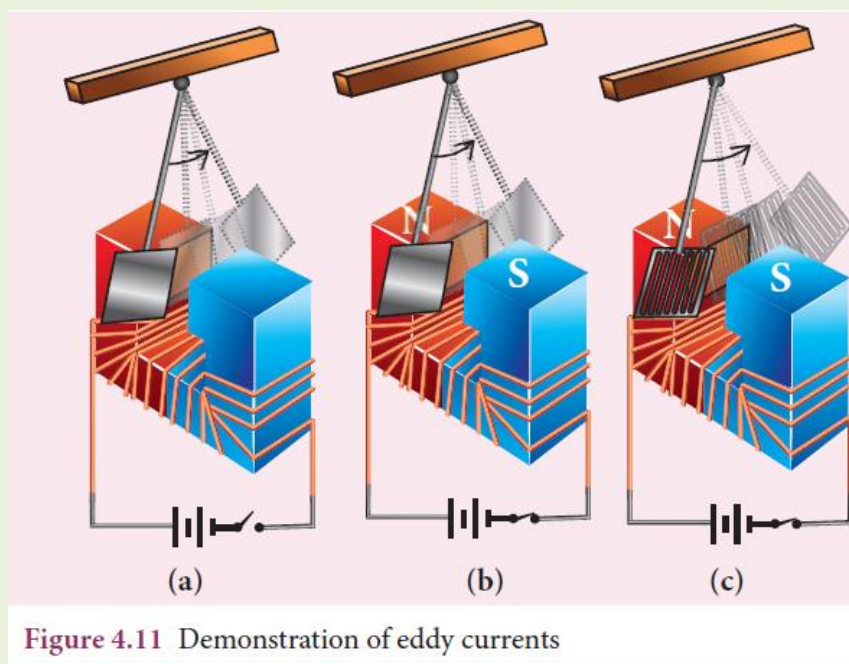

Figure 4.11 Demonstration of eddy currents
- ❖ Here is a simple demonstration for the production of eddy currents. Consider a pendulum that can be made to oscillate between the poles of a powerful electromagnet (Figure 4.11(a)).
- ❖ A heavy damping force of eddy currents will bring the pendulum to rest within a few oscillations (Figure 4.11(b)).
- ❖ However if some slots are cut in the disc (Figure 4.11(c)), the eddy currents are reduced. The pendulum now will execute several oscillations before coming to rest.